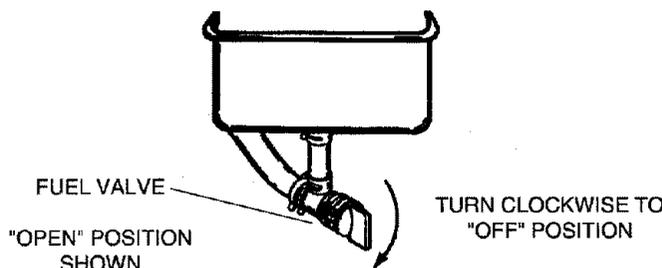

Figure 3
D. Be sure fuel valve is open (see Figure 3).
- B. Close fuel valve (see Figure 3).